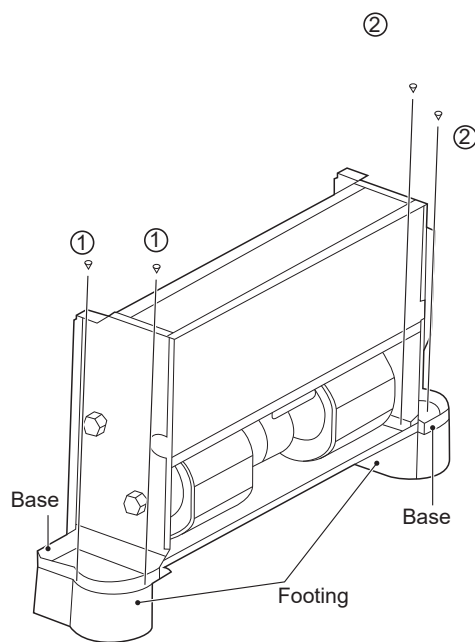

Figure 5-3
The footings shown in Figure 5-3 are optional. You can purchase them separately and install them as follows:
2. Place the mounting holes on the unit base into the corresponding footing locating pin and install screws 1*2 and 2*2 to fix the footing according to Figure 5-3.